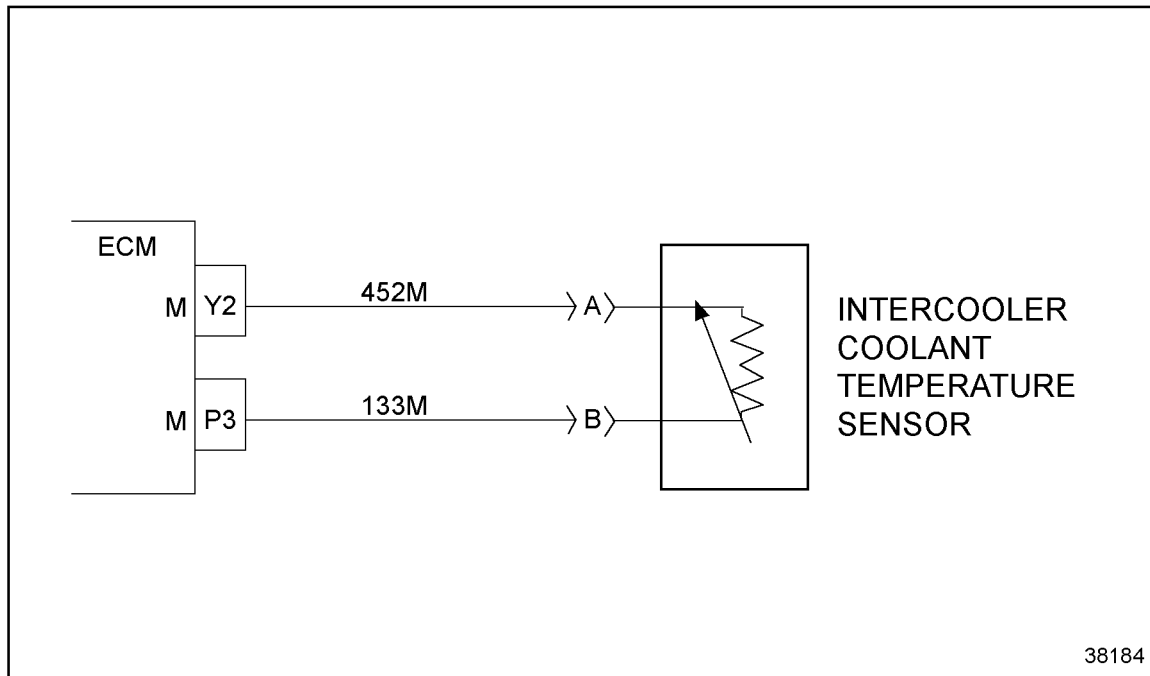

Figure 15-9 **Temperature Sensor Circuits**
1. Check terminals at the ICTS connector (both sensor and harness side) for damage; bent, corroded and unseated pins or sockets. See Figure 15-9.